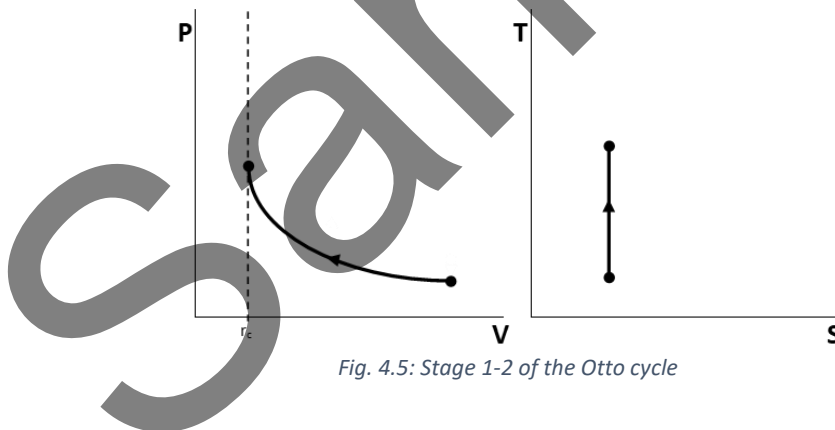
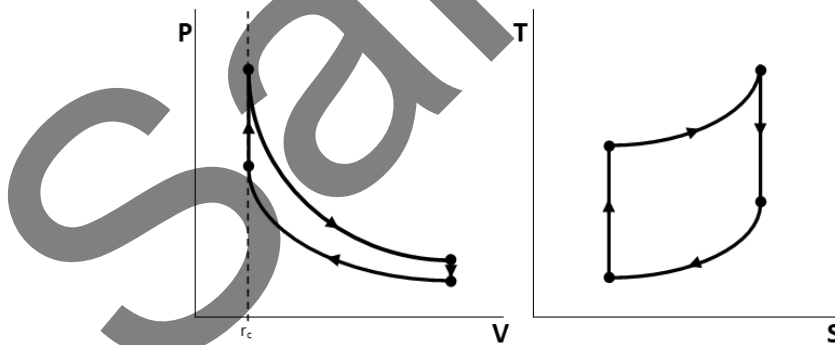

Fig. 4.5: Stage 1-2 of the Otto cycle
Fig. 4.8: The complete Otto cycle
The Otto cycle is built to represent a more realistic engine system. This process is more commonly associated with a spark ignition (SI) engine, which will be discussed in Section 4.2. The complete P-V and T-S diagrams of the cycle are shown in Fig. 4.8 below. The defining feature of the Otto cycle is its constant pressure heat addition in the system. The point marked r_c on Fig. 4.5 is known as the compression ratio of the system, it is the ratio of volumes between the top dead centre (TDC) of the piston, relative to the bottom dead centre (BDC) of the piston, given by Eq. 4.3.
1-2: Isentropic compression, Fig. 4.5 shows the first stage of the system on the P-V and T-S diagram.